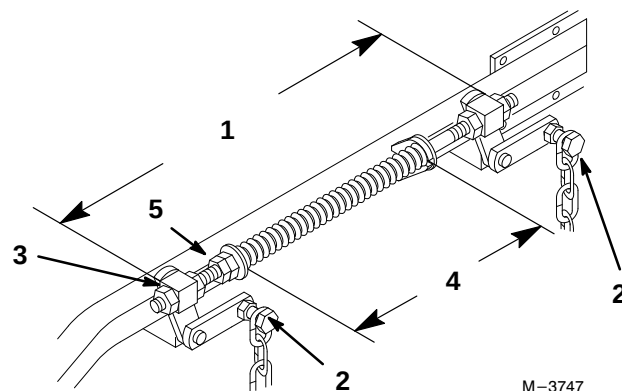

Figure 46
6. Loosen four (4) top chain bolts in slots. Check the length of the rod/swivel assemblies. Distance from outside of rear swivel to outside of front swivel should be 20-1/4" (514 mm) (Fig. 46). Make sure that all four swivels move freely in holes.
8. Lift up on four (4) top chain attachment bolts, in the slots, to take slack out of chains and tighten flange lock nuts. (Deck is still supported by two rear and one front blocks under mower)
2. Springs are compressed so the distance between the two large washers should be 11-1/2" (292 mm) (Fig. 46).
3. Adjust by turning nut in front of each spring (Fig. 46). (clockwise will shorten spring, counter-clockwise will lengthen spring)